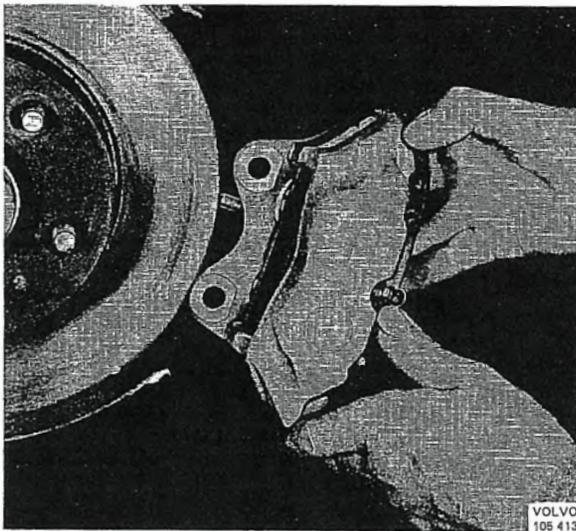

Fig. 5-20. Removing front wheel brake caliper
4. Unscrew the attaching bolts (4 and 7) and remove the brake caliper, see Fig. 5-20. Place the protective cover on the brake lines to prevent unnecessary leakage.